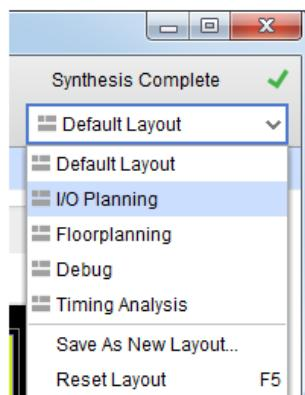

Figure 10.1: I/O Planning option
1. Change the layout from the **Default Layout** to **I/O Planning** view, in the layout pull-down menu in the main toolbar, to identify pins that don't have an assigned location, see Figure 10.1.